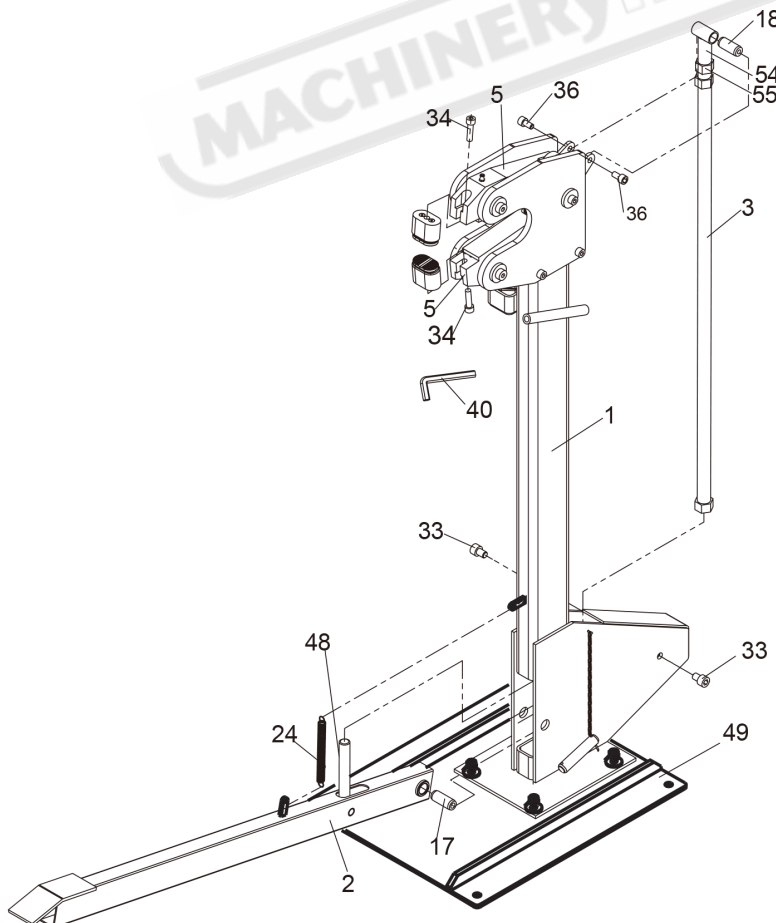

Fig. 3.1
THE METALMASTER Shrinker & Stretcher will require minor assembly prior to operation. It is important that the entire manual is read to become familiar with the unit BEFORE you assemble and use the Machine. Before assembling the Metal Shrinker Stretcher, be sure that you have all parts described in the Parts List. (Fig.3.1)
2. Mount the Bottom Plate(49#) on the floor through the four mounting holes. (See Figure 3.1)
3. Connect the Footplate Bar (2#) into the Frame (1#) using Shaft (17#) and two Screws M10 x 16 (33#). (See Figure 3.1.)
5. Put the Shaft (18#) into the upper hole of the "T" Bolt (54#), then connect the "T" Bolt (54#) and the Driving Wheel (6#) with two Screws M8 x 16mm (36#). (See Figure 3.1)